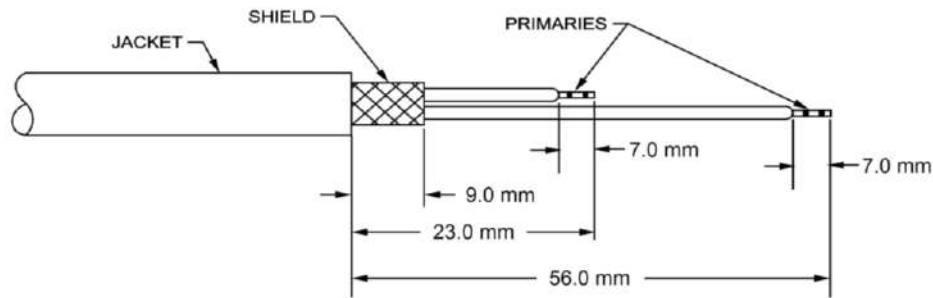

Figure 5-29 Single Shield Cable Strip Dimensions for Mini-Seal Crimp
- a. Remove 56mm of cable jacket (Figure 5-29).